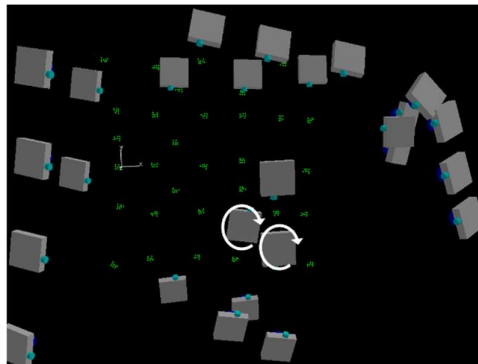

Figure 3
- There needs to be a diversity of camera roll angles within the network. This is not always achievable with oblique imagery captured from a drone, since it's generally not possible to rotate the camera around its optical, pointing axis. However, orthogonal rolls can be achieved by adding near-nadir images, rotating the drone by 90 and 180 degrees between images. To achieve the required orthogonal roll angles, the drone can be hovered over the codes with the camera pointing downwards (near-nadir). Two or more images are then recorded, with the drone's yaw rotation changing by 90 degrees for each image, as indicated in Figure 3.